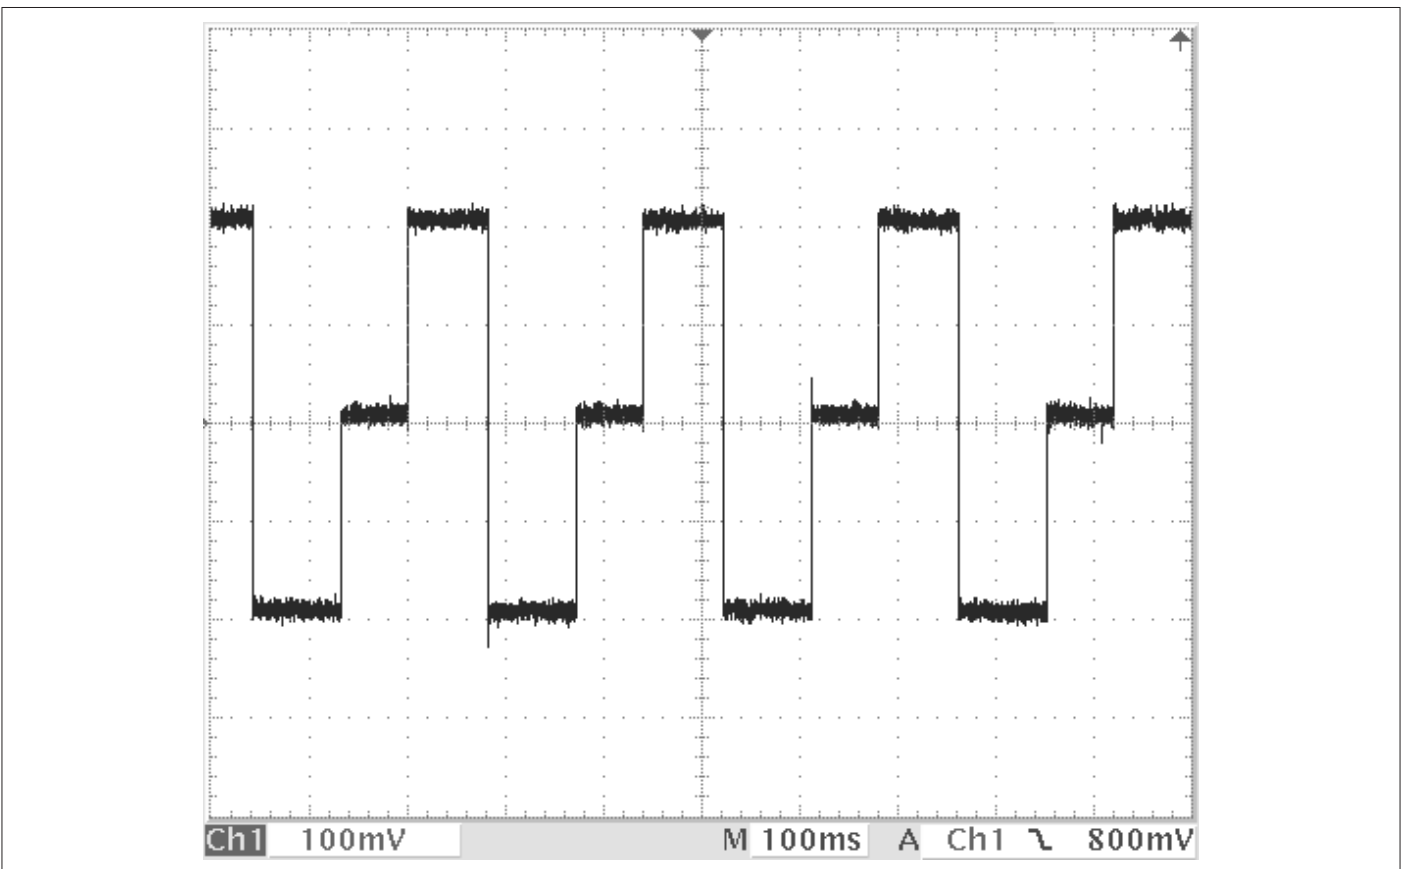
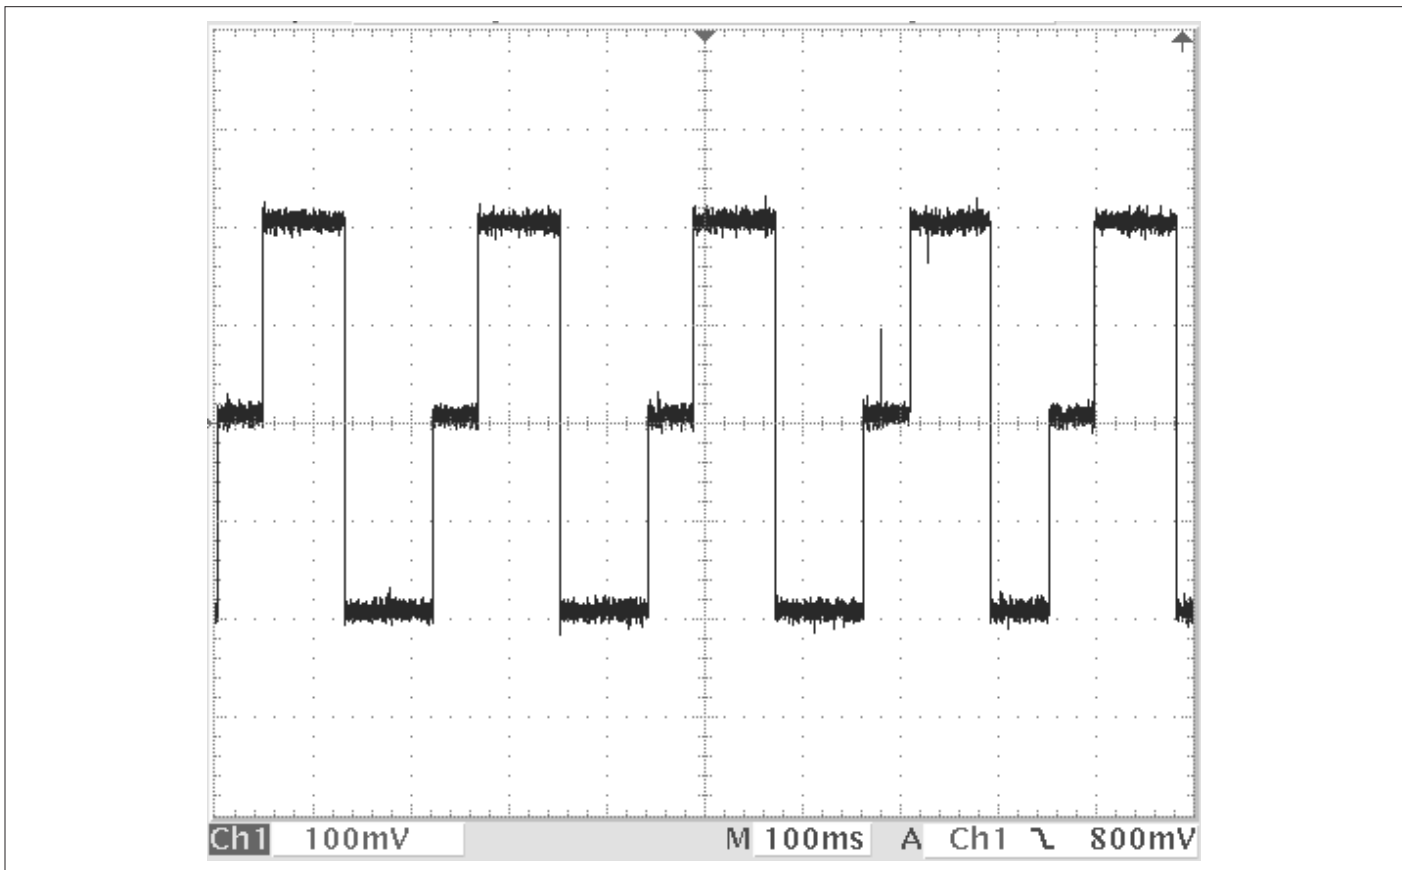

Figure 6-65 Oscilloscope showing the signal at X6, Period Single A.
Figure 6-66 Oscilloscope showing the signal at X7, Period Single B.
Set the timer/counter to default. Select the measuring function Single Period. Connect the 1 kHz square wave to channel A (B). Measure with oscilloscope at X6 (X7). See Figure 6-65 (Figure 6-66) for a typical signal.